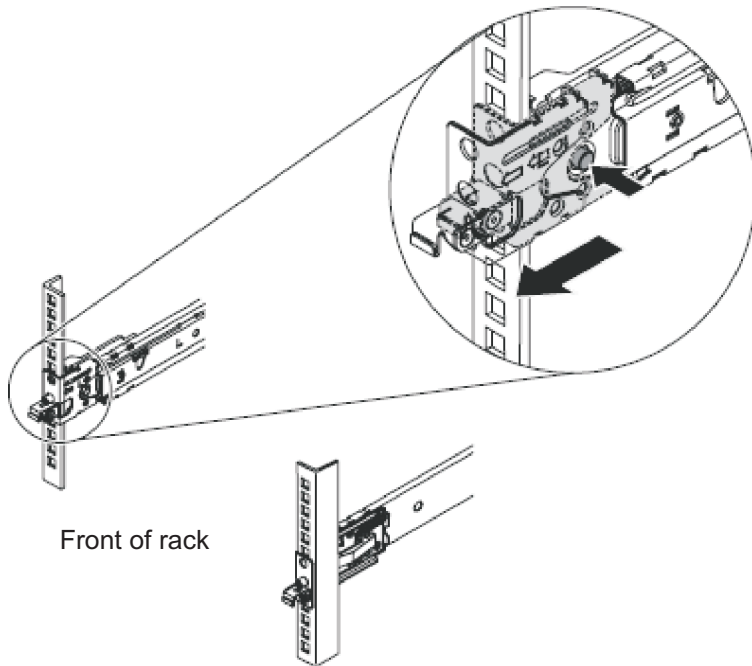

Figure 42. Removing the front end of the slide rails
3. Remove the front end of the slide rails, as shown in Figure 42.
4. Remove the rear end of the slide rails, as shown in Figure 42.